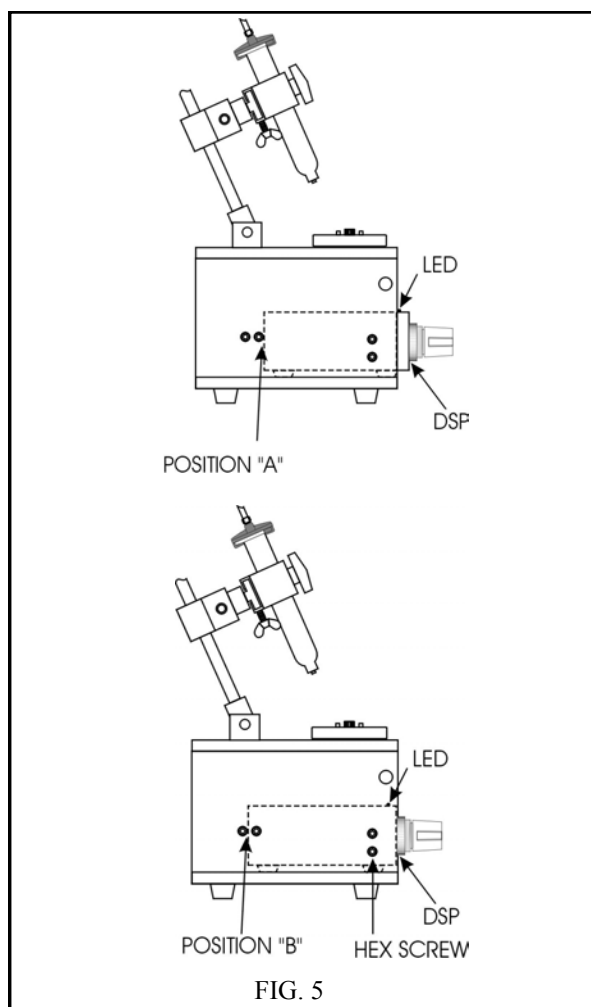

FIG. 5
- e. Back out the (2) hex screws on the left side of the RT404-FLEX II, so that the DSP dispenser can be inserted with ease (see fig. 5).
POSITION A: DSP unit protrudes 0.75 inches in front of the RT404-FLEX II table. DSP led light can be seen (see fig. 5).
POSITION B: DSP unit is flush with front of RT404-FLEX II table. DSP led light can not be seen (see fig. 5).
- h. Lock the dispenser in place using the (2) side hex screws (see fig. 5). DO NOT OVERTIGHTEN.